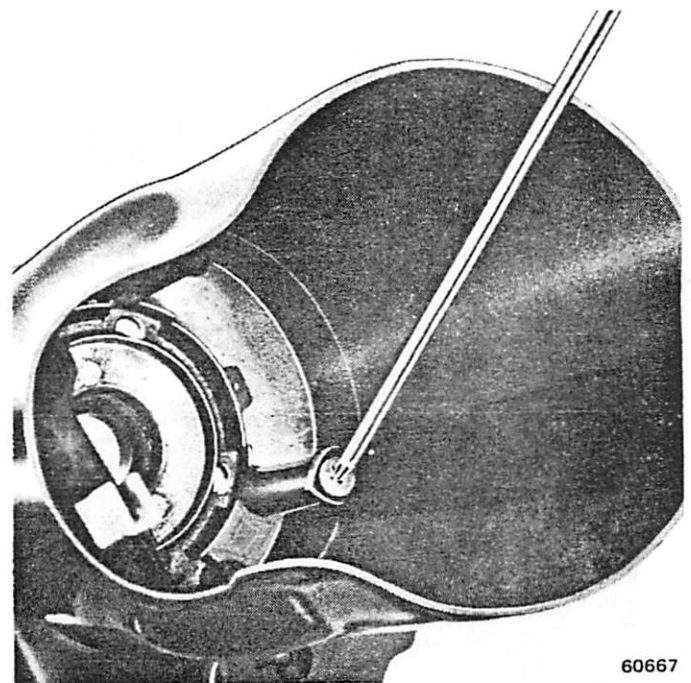

Fig. 2J-12 Removing Shroud From Housing
- (25) Remove rack preload spring (fig. 2J-15).